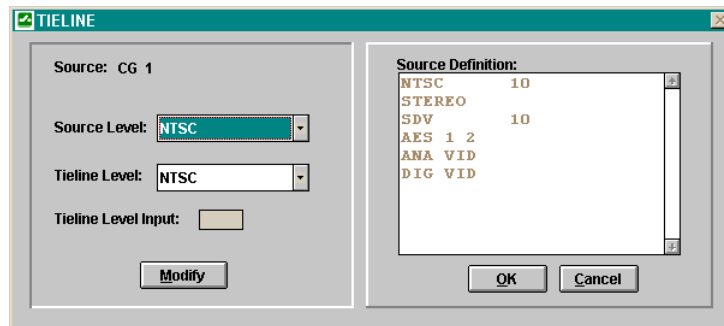

Figure 30 Tieline Source Definition Window
3. If one or more tielines have been configured, the **Tieline** button will be enabled. Clicking this button will open the TIELINE SOURCE DEFINITION window (Figure 30) which will allow the use of a tieline input for a **Selected Level**: